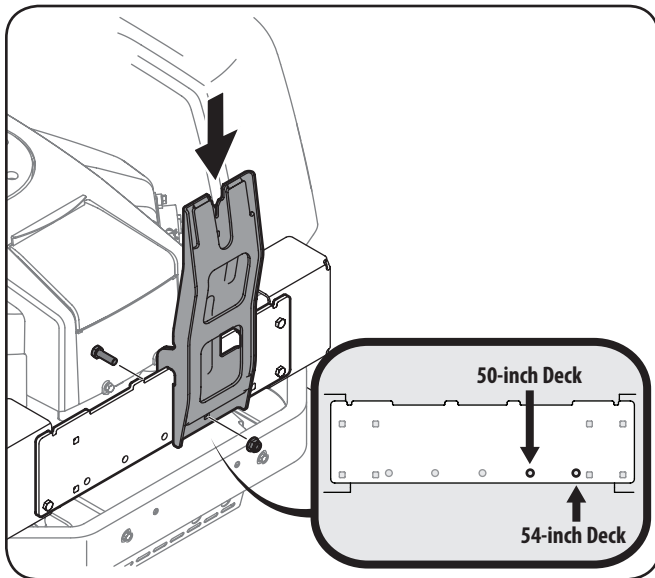

Figure 4-4
4. Install the upright support bracket onto the mounting assembly on the tractor by hooking it over the mounting assembly as shown in Figure 4-4.
5. Secure the upright support bracket to the mounting assembly in the mounting hole available for the deck size this bagger is being installed on. See Figure 4-4 for the proper mounting location. Use a 710-0376 hex bolt and 712-04063 flange lock nut from hardware pack 689-00320.